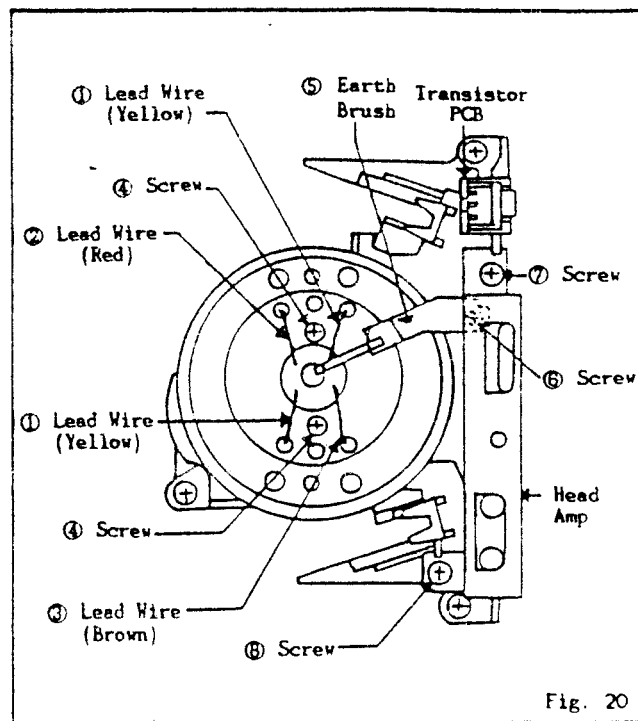

Fig. 20
1. Set up a new drum as per Fig. 20 and correctly place each lead wire.
2. Set upper drum by two installing screws ④.
3. Solder lead wires ①, ② and ③ to their respective positions.
4. Install the EARTH BRUSH ⑤ by the screw ⑥.
5. Set the Head Amp with the 2 screws ⑦, ⑧ again.